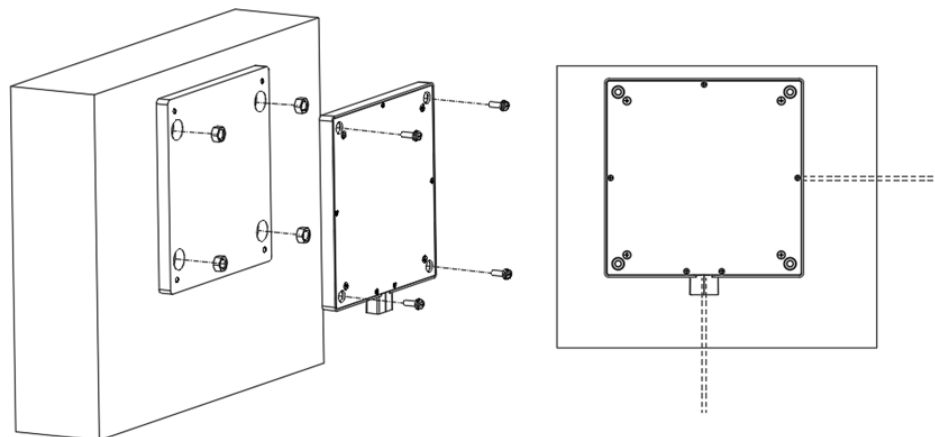

Fig 14 – Mounting coil (Diagram, unit: mm)
1. Make sure that the zone around the coil is free of conductive objects (see Figure 14).